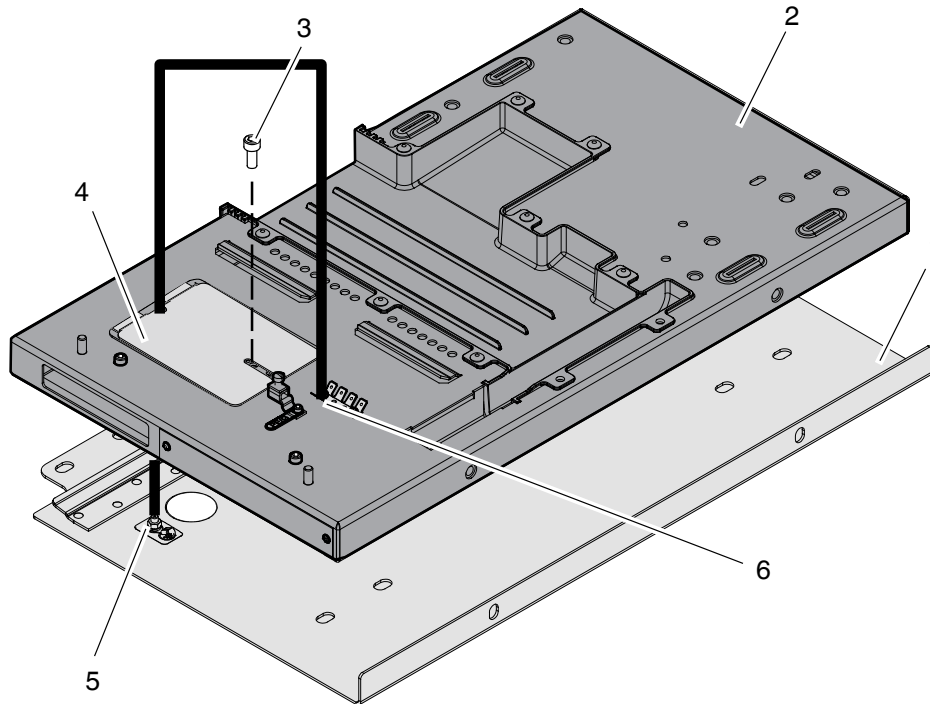

Figure 3-8 Disconnecting ground wire (some components not shown)
3. See Figure 3-8. Disconnect the ground wire from the chassis to sub-base by doing the following: